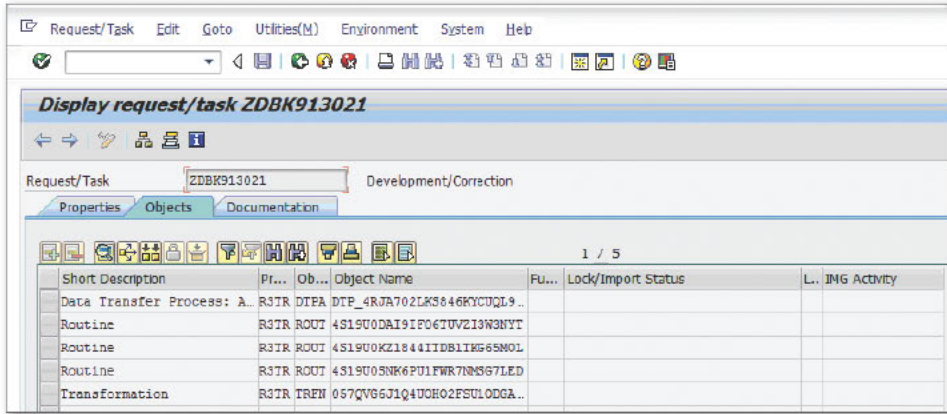

Figure 3 Transport Request Showing the Objects That Will Be Deleted
- Enter the missing objects information as shown in Figure 3 (the objects you want to delete from the other systems). The system automatically identifies that these objects are missing and need to be deleted in QA and PRD. After the transport reaches the destination, the obsolete objects will be deleted.